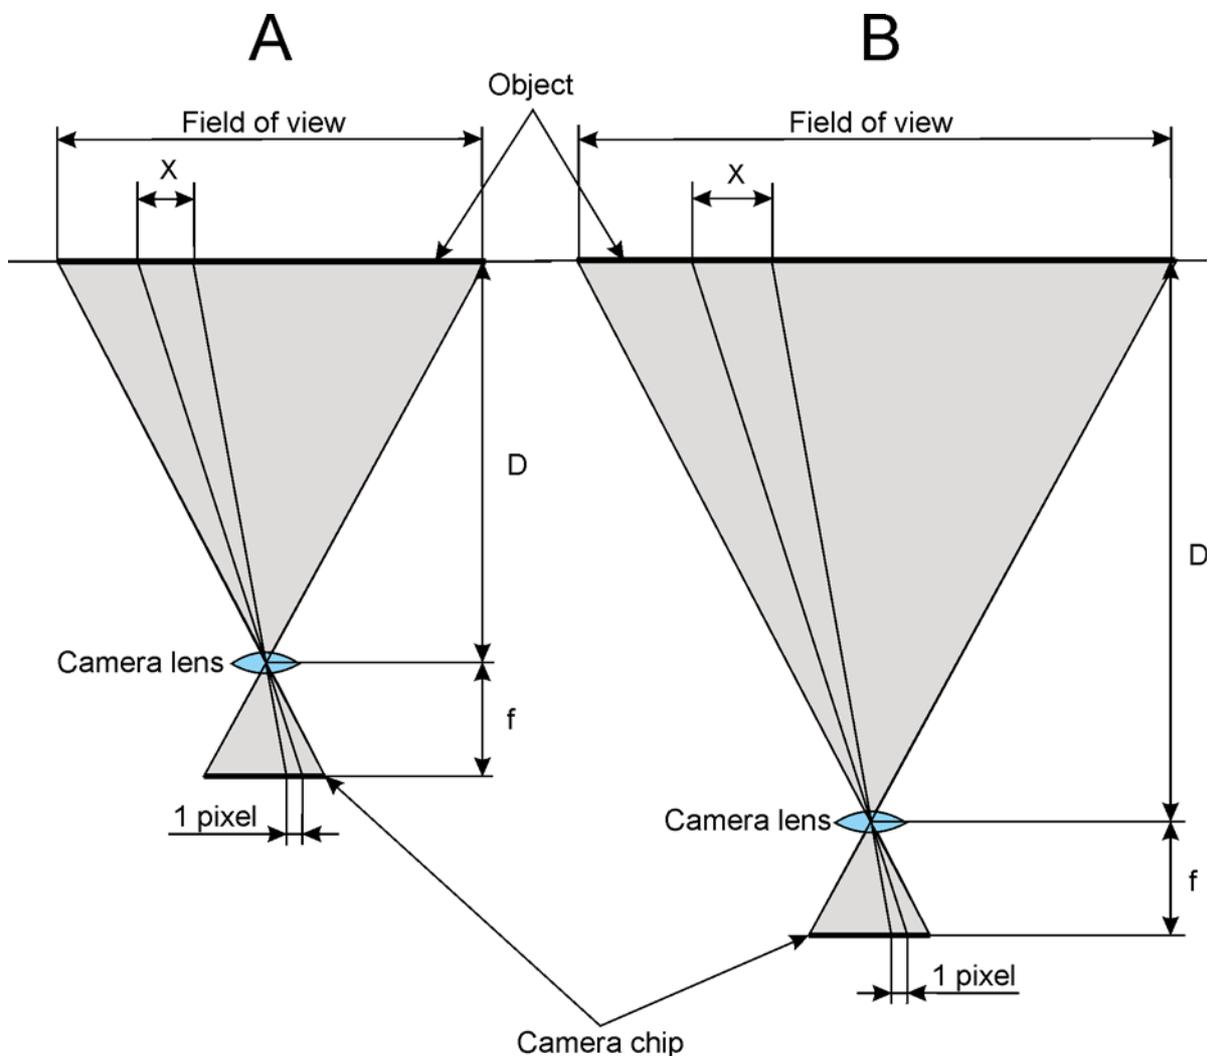

Figure 4.3 Obtainable accuracy in proportion to the distance in an image
In Figure 4.3 figure A and B describe the proportion between the size of one pixel on the camera chip and the corresponding size of one pixel on the object (X). In figure B the distance to the object is longer and therefore the size (X) becomes larger.